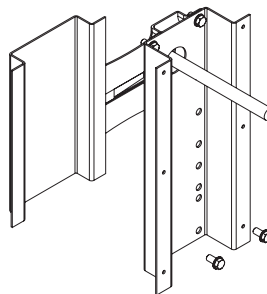

Figure 1a - Orientation of Stand Off Bracket for a jackshaft driven damper
1. Mount the anchor bracket onto the jackshaft bracket with (4) 1/4-20 x 1/2 in. thread cutting screws (Item 17) as shown in Figure 1a.
2. Attach anchor bracket to sleeve with (2) #14 x 3/4 HWH Tek screws (Item 20). Position the Tek screws as far down the sleeve as possible.
3. Mount the mounting bracket to the anchor bracket using (6) #14 x 3/4 HWH Tek screws (Item 20).